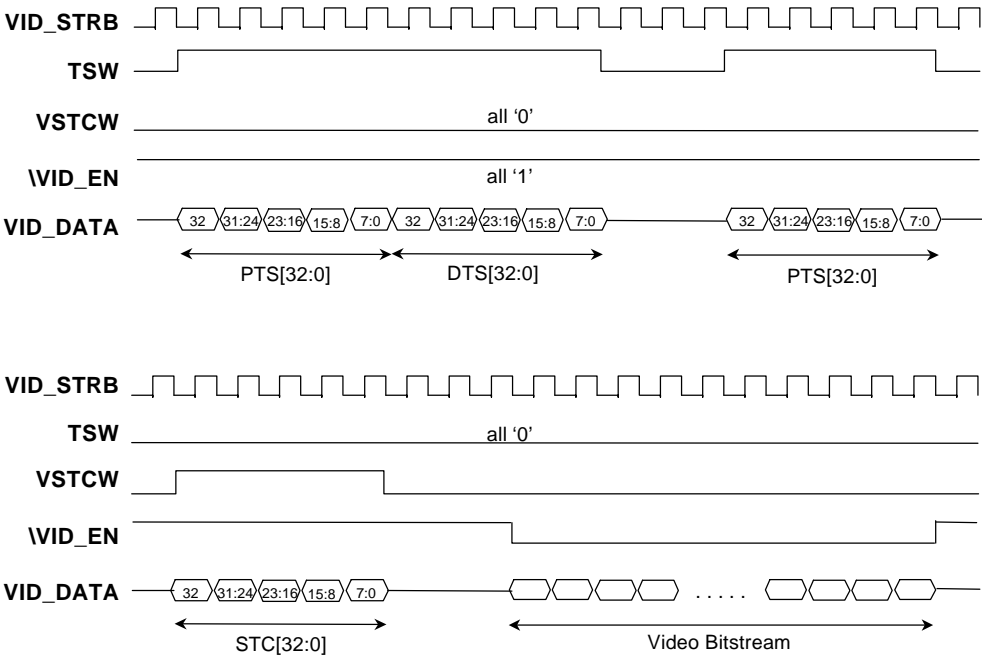

Figure 4. Transport Data Interface Timing Diagram
**Vid\_data[7:0]** is latched on the rising edge of **vid\_strb**. When **\VID\_REQ** is high, transport data interface is disabled, and when **\VID\_REQ** is low, transport data interface is enabled. See the following Fig. 4.